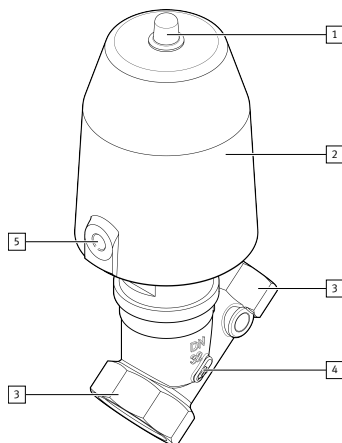

Fig. 1: Product design
- Observe the flow direction. The permitted direction of flow is marked by an arrow on the valve housing → Fig. 1, [4].